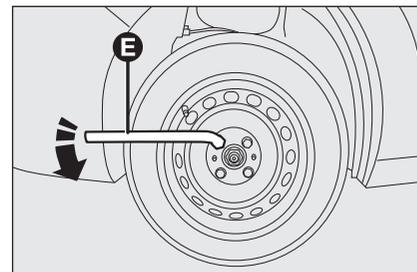

fig. 5
- loosen by about one turn the bolts on the wheel to be replaced, using the wrench **E**-fig. 5;